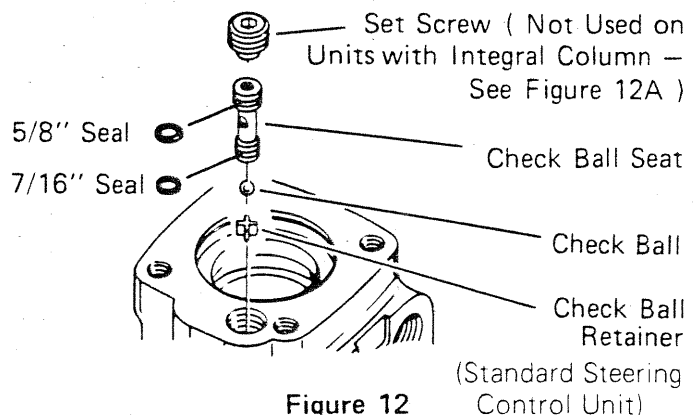

Figure 12
- 1 Use a needle nose pliers to lower check ball retainer into check valve hole of housing. Make sure retainer is straight (not tilted on edge) in housing, see Fig. 12.
- 3 Lubricate 5/8" diameter seal and 7/16" diameter seal. Install seals on check ball seat as shown in Fig. 12.
- 4 Lubricate check ball seat and seals thoroughly before installing seat in housing. When installing seat do not twist or damage seals. Install check ball seat in housing, insert open end of seat first, see Fig. 12. Push check ball seat to bottom of hole.